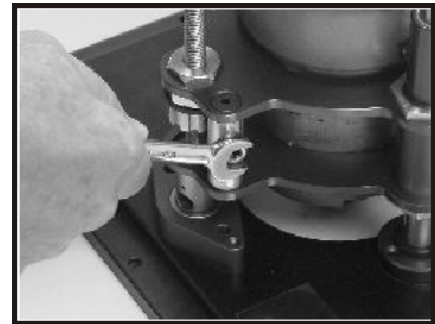

Figure 7
2. With an open end wrench, (Fig. 7) loosen the hex nut that is located on the right side of the brass post next to the threaded rod. Then use a hex wrench to back out the set screw that threads through the nut until the brass tensioning collar can be turned.